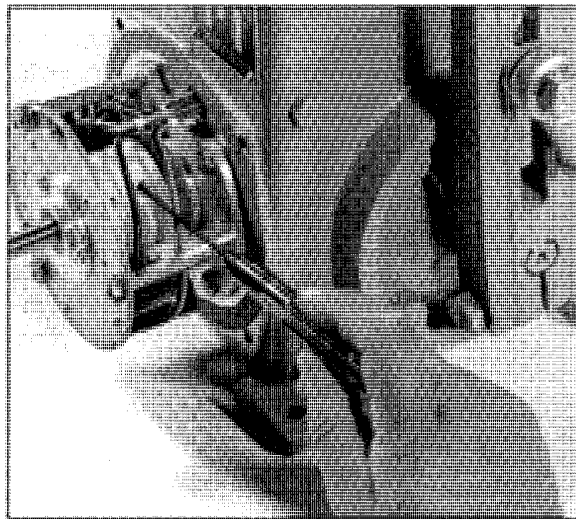

Fig. 1
2. Use the electric handswitch to drive the control shaft so that the FL switch cam screw is accessible. Using a 7/64" hex wrench, loosen the screw so that the cam is just snug on the shaft. See Figure 1.